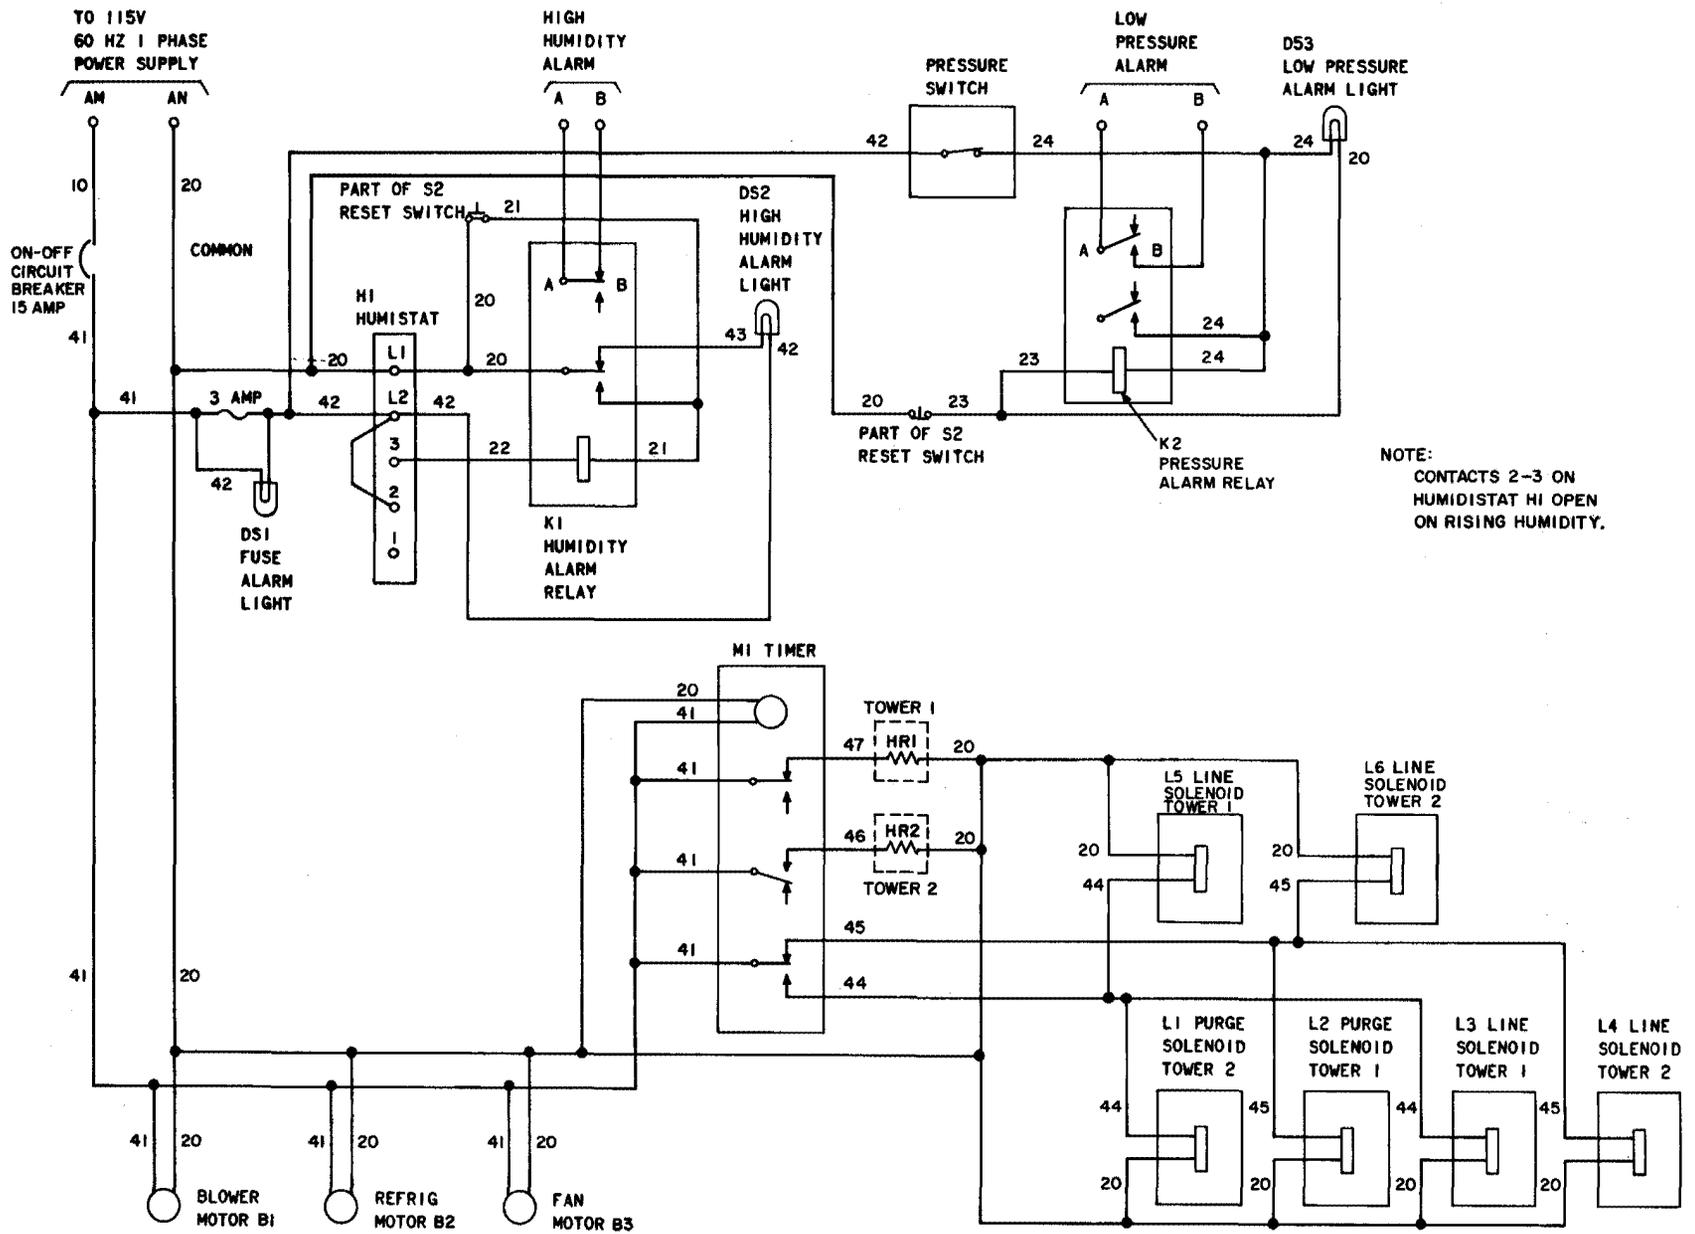

Fig. 16—KS-20183 L1 Air Dryer—Electric Schematic (L101 and L103 Wiring Not Included)
3.03 The wiring schematics of the KS-20183 L1 and L2 air dryers (Dielectric) are shown in Fig. 16 through 23.